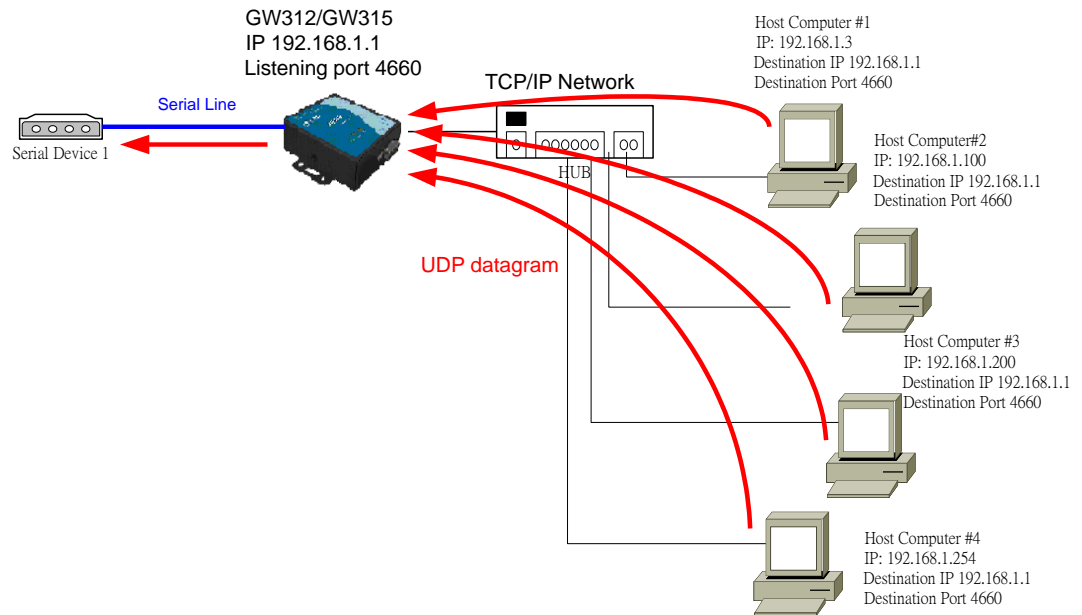

Fig. 31. Data Transmission in a UDP Slave (Server) Mode
2. **Slave (Server) Mode** : To establish a connection using unicast or broadcast data from one or multiple host computer to a serial device.(Fig. 31)